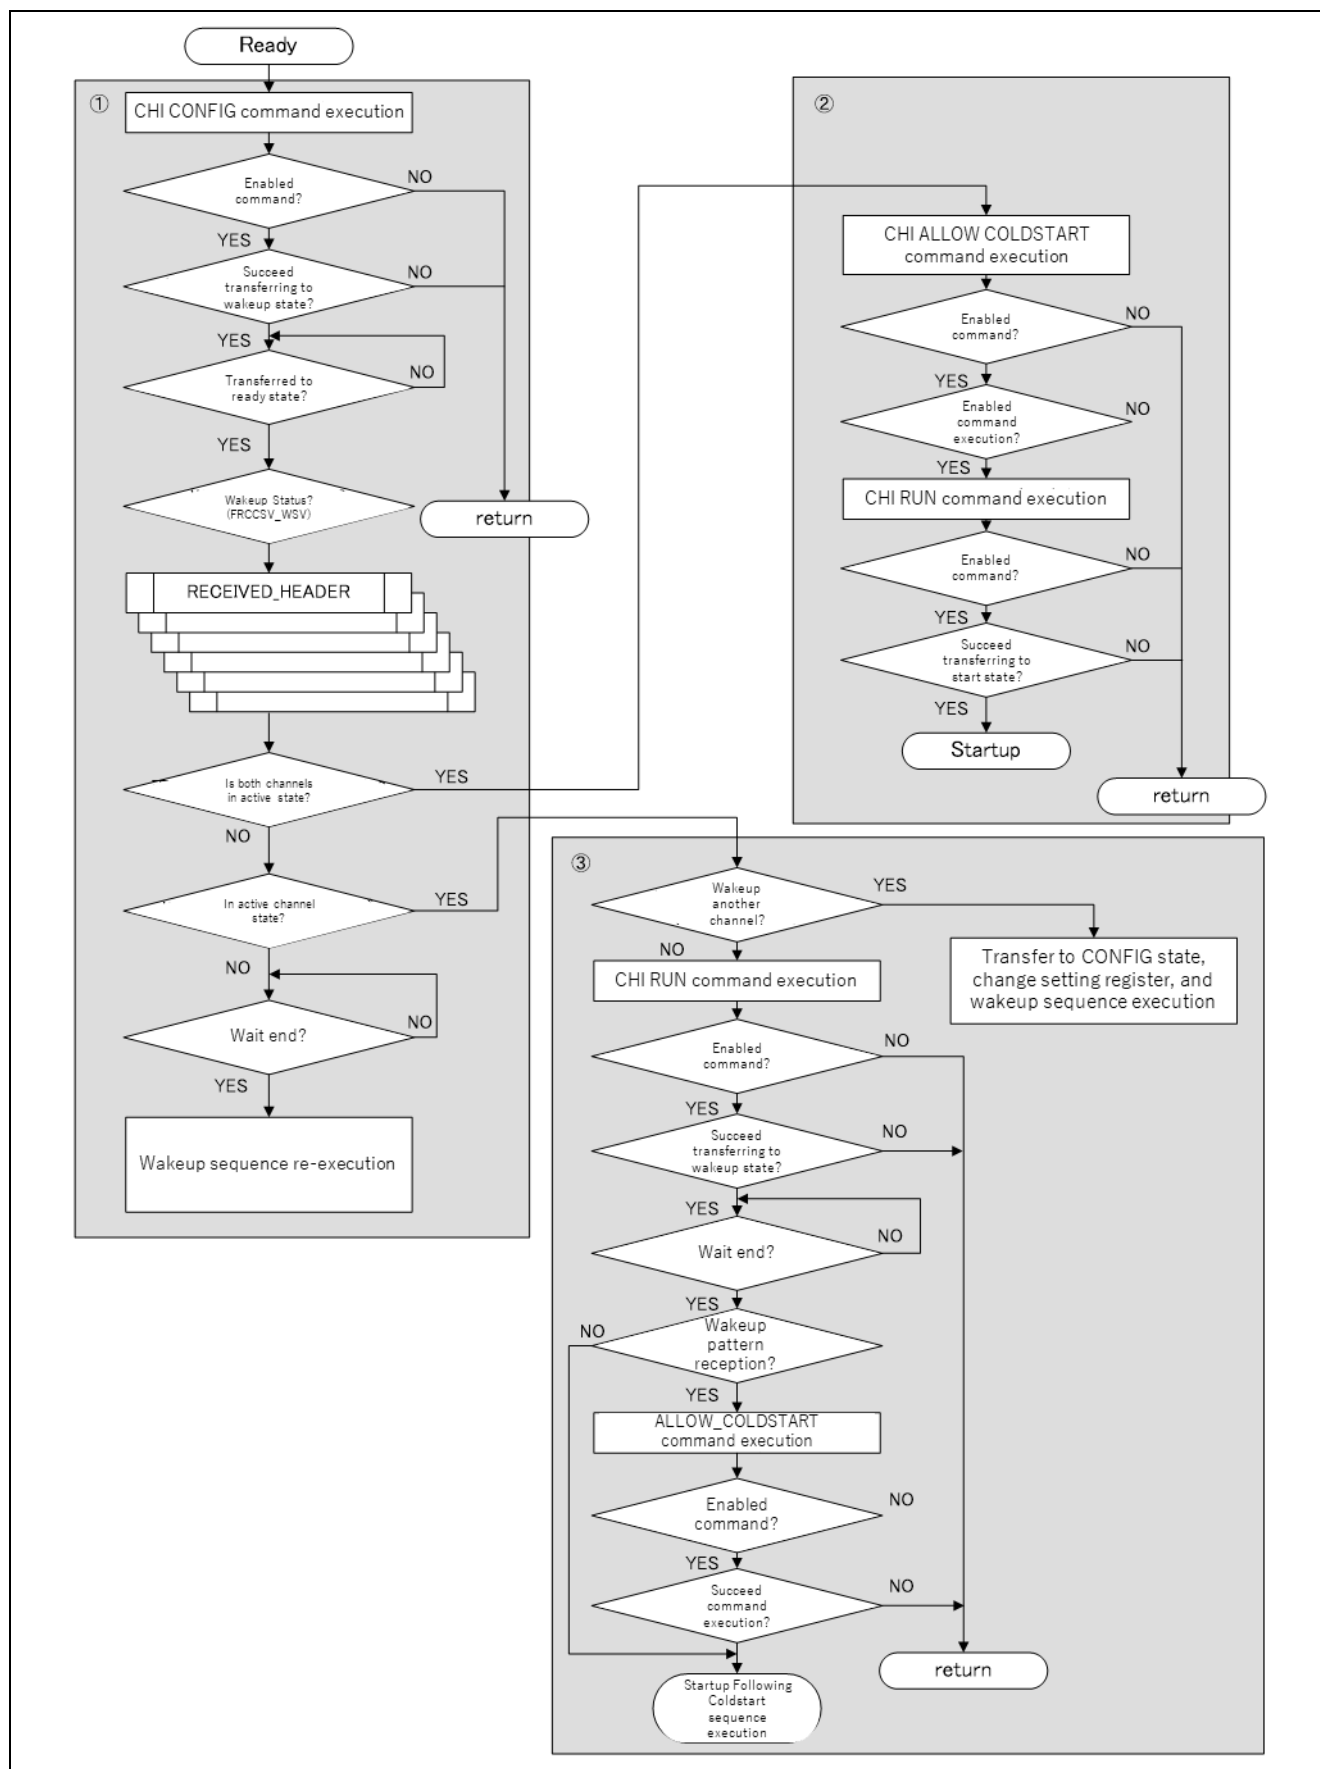
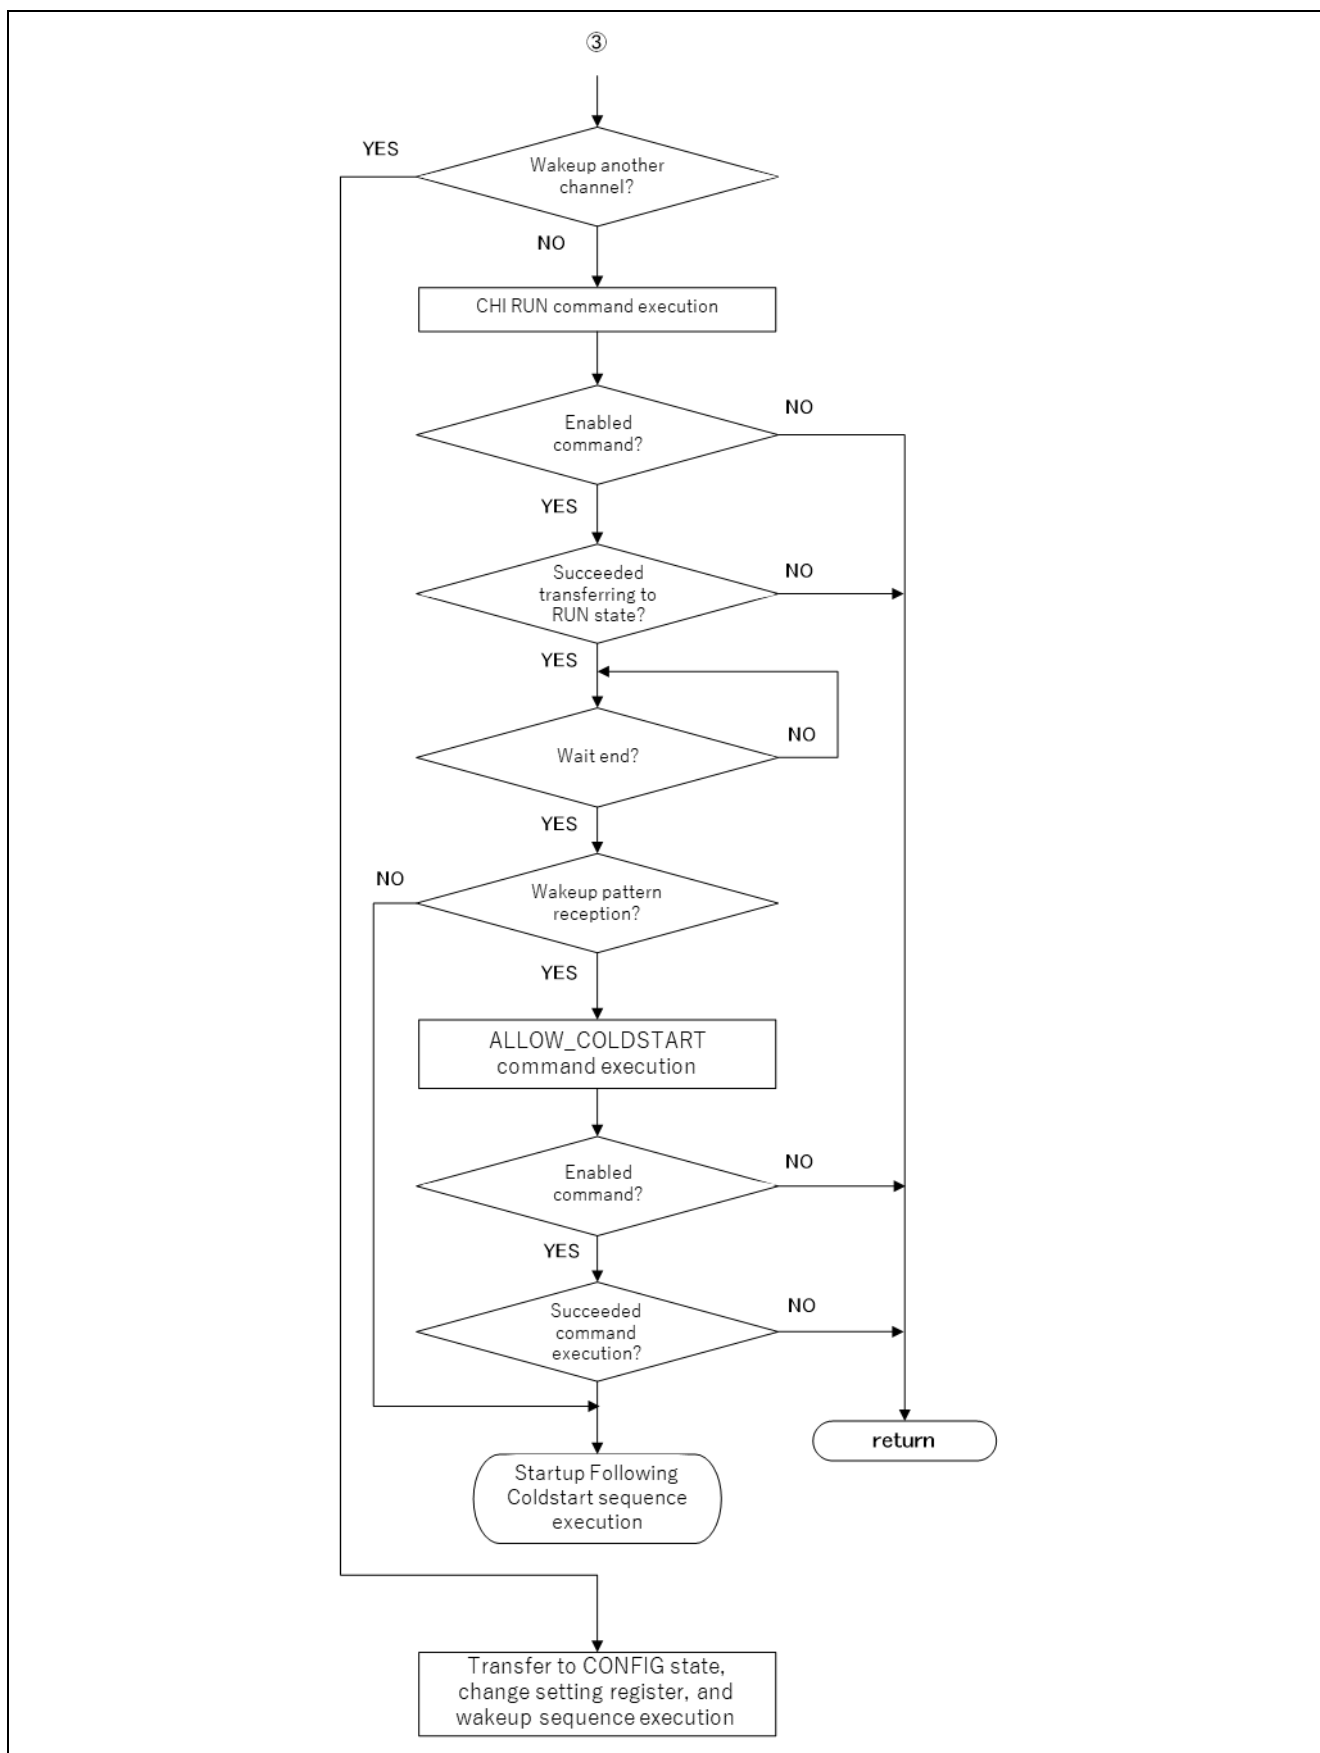

Figure 2-4 Wakeup Sequence Example (1)
Figure 2-7 Wakeup Sequence Example (4)
Figure 2-4 to Figure 2-7 show the wakeup procedure example when operating the wakeup master node and cold-start node.
Refer to Figure 2-4 for the control procedure example. Since both channels are active, control ② is performed.